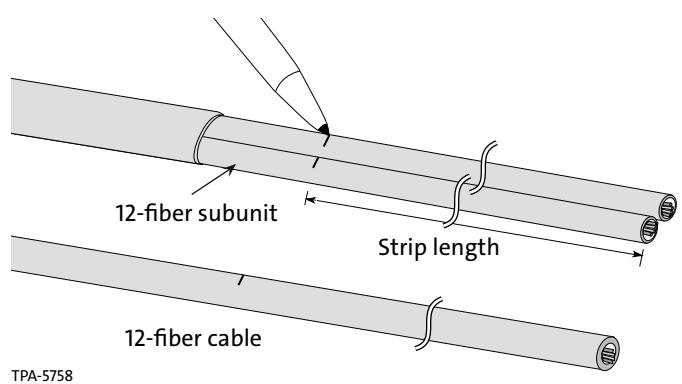

Figure 6
**Step 2:** Measure and mark this length from the end of the cable's outer sheath using a tape measure and a permanent marking pen (Figure 6).